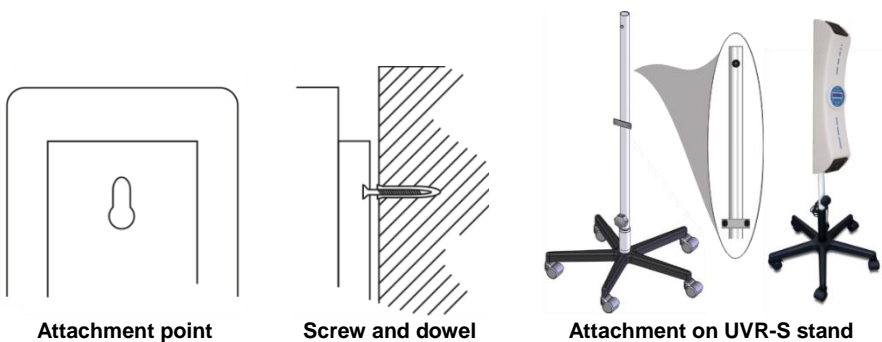

Figure 3. Unit attachment methods
- Fix the unit on the wall with the screw and dowel, or on a UVR-S movable support stand (Fig.3).